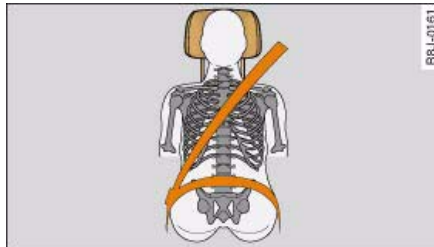
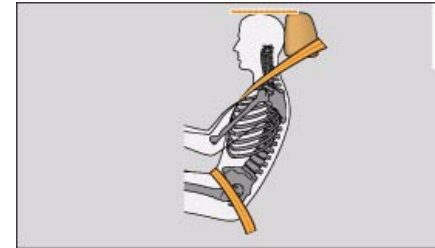

Fig. 175 Correctly adjusted head restraint (seen from the front)
Fig. 176 Correctly adjusted head restraint (seen from the side)
- Adjust the head restraint so that the top of the head restraint is level with the top of your head ⇒ *fig. 175* and ⇒ *fig. 176*.